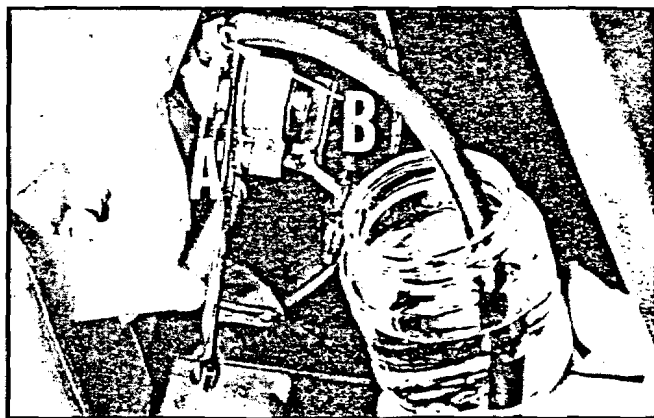

Figure 3
2. Slip a rubber tube over ball of bleeder valve (A) (figure 3) and direct flow of fluid into a container. (DO NOT RE-USE FLUID.)
3. Squeeze brake lever a full stroke, unscrew bleeder valve (B) (figure 3) 3/4 of a turn to release air. Close bleeder valve, then release brake lever. Repeat this procedure until fluid flows from bleeder valve in a solid stream that is free of air bubbles. Refill reservoir after bleeding operation.